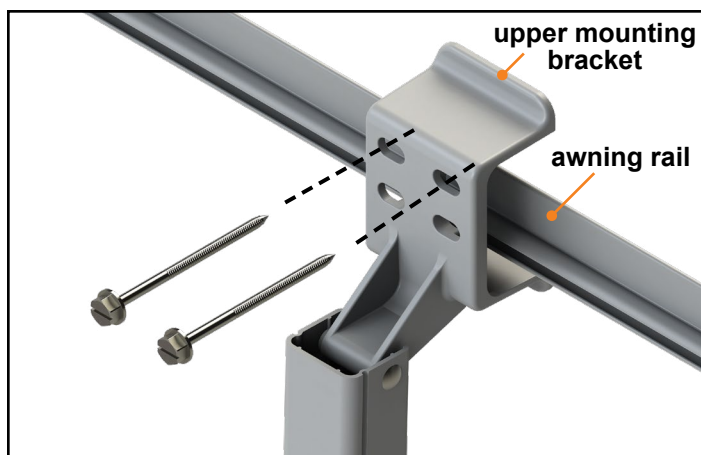

Fig.10
10. Once the upper bracket is placed, mark and pre-drill two $\frac{3}{16}$ " holes through the awning rail or unit. Apply a liberal amount of sealant over the holes and attach the upper mounting bracket using the $\frac{1}{4}$ " x 3" lag screws provided (Fig.10).